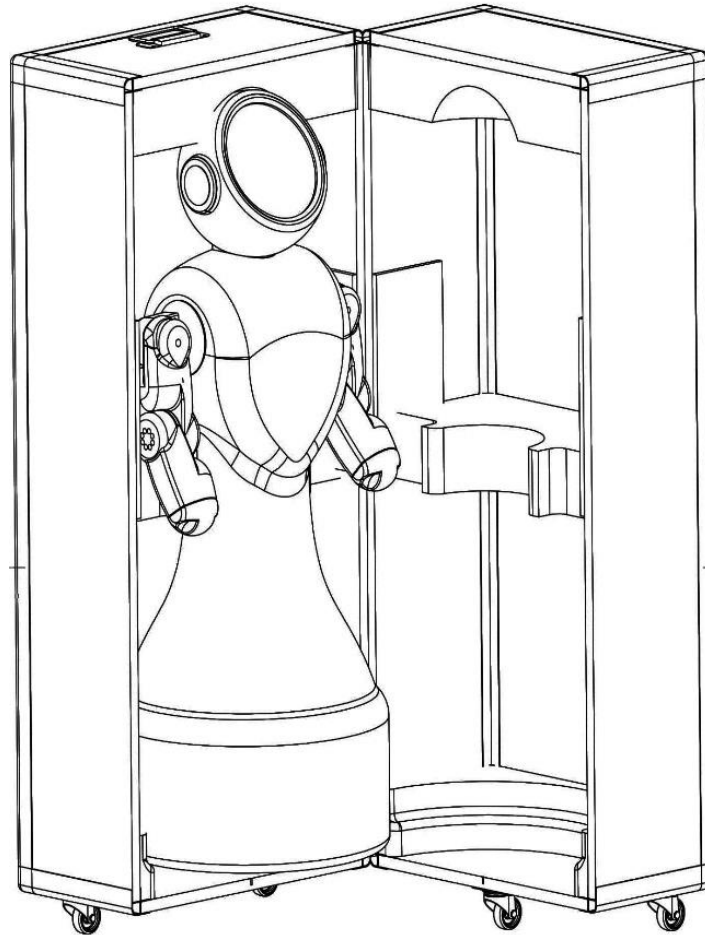

Figure 4
- The robot's carrying crate dimensions are 55cm x 57cm x 127cm, as given in Figure 4.